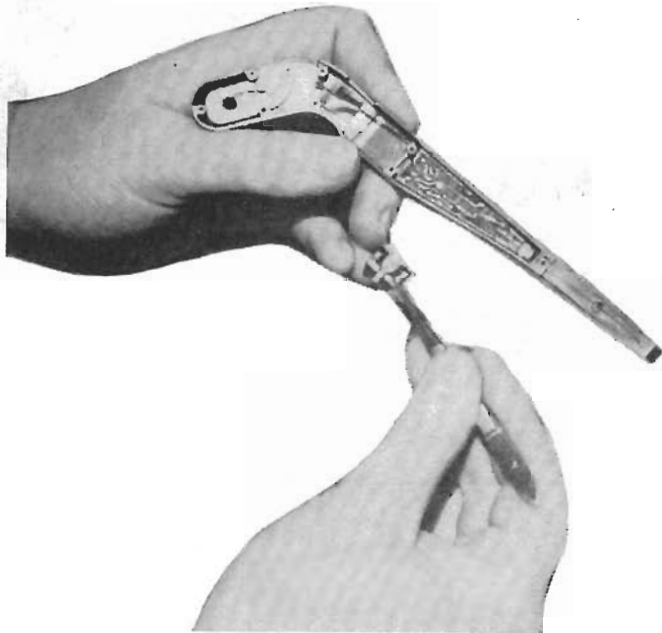

Fig. 1—The "eyeglasses" hearing aid shown here incorporates an electronic amplifier and volume control in its temple frame.
• The public spends around \$60,000,000 for 300,000 new hearing aids every year. Many different types are available, such as the eyeglass temple-type shown in Fig. 1. No figures have been published on how much is spent for servicing hearing aids. But, it is a significant number, you can be sure.